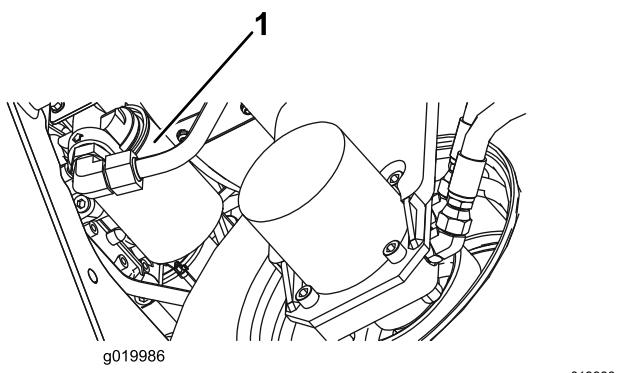

Figure 76
2. Clean around the filter mounting area. Place a drain pan under the filter (Figure 76) and remove the filter.